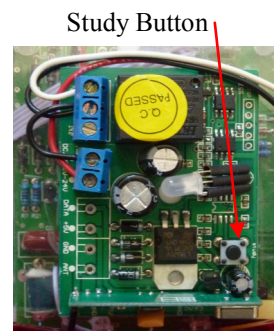

Figure 1
- 6) Press and release the small black “study” button on the top piggy back circuit board. (See Figure 1) LED near button will turn red.